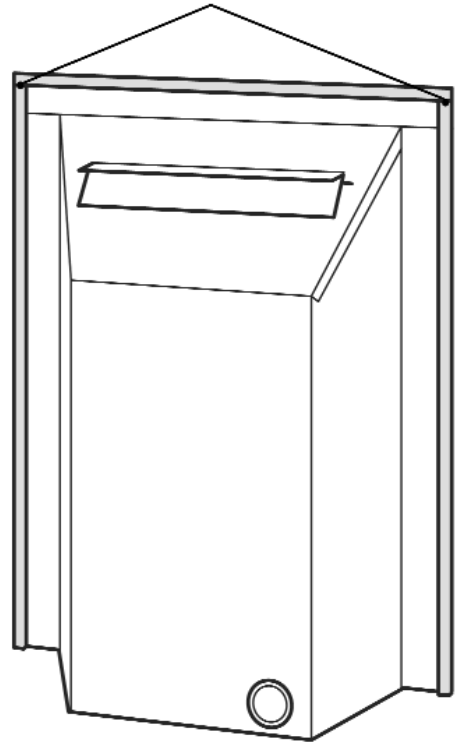

Figure 12. Fitting the foam seal
4. There is a length of self adhesive foam seal supplied with the fire. This will need to be fitted to the outer rear edges of the side and top flanges of the hotbox. Cut the foam seal to the required length. Be careful not to stretch the seal when measuring. Remove the protective backing from the foam seal and fit this to the rear of the top flange (See figure 12).